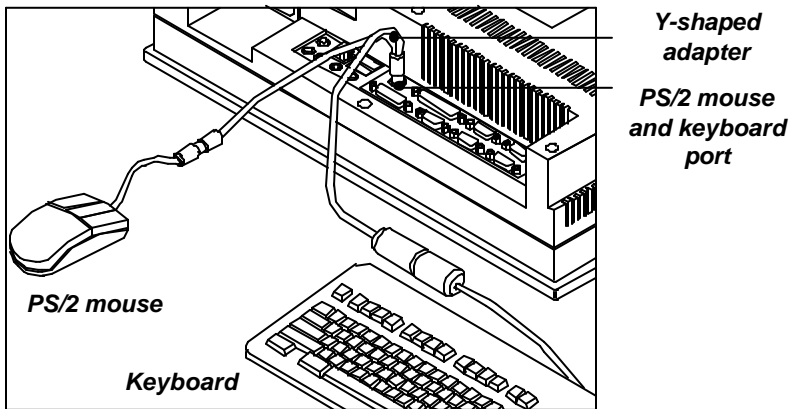

Figure 2-6: Connecting the keyboard and mouse
1. Connect the Y-shaped adapter to the PS/2 mouse and keyboard port on the I/O section of the POC-173. (See Fig. 2-6.)
2. Connect the PS/2 mouse and keyboard to the Y-shaped adapter. (See Fig. 2-6.)